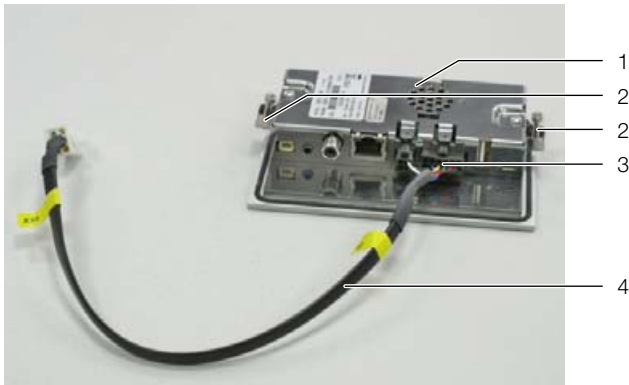

Fig. 47: Preparing the graphic display
- Insert the fastening clamps with screws (fig. 47, item 2) on the left and right of the display.
- Insert the connection cable (fig. 47, item 4) into the bottom of the display (fig. 47, item 3).